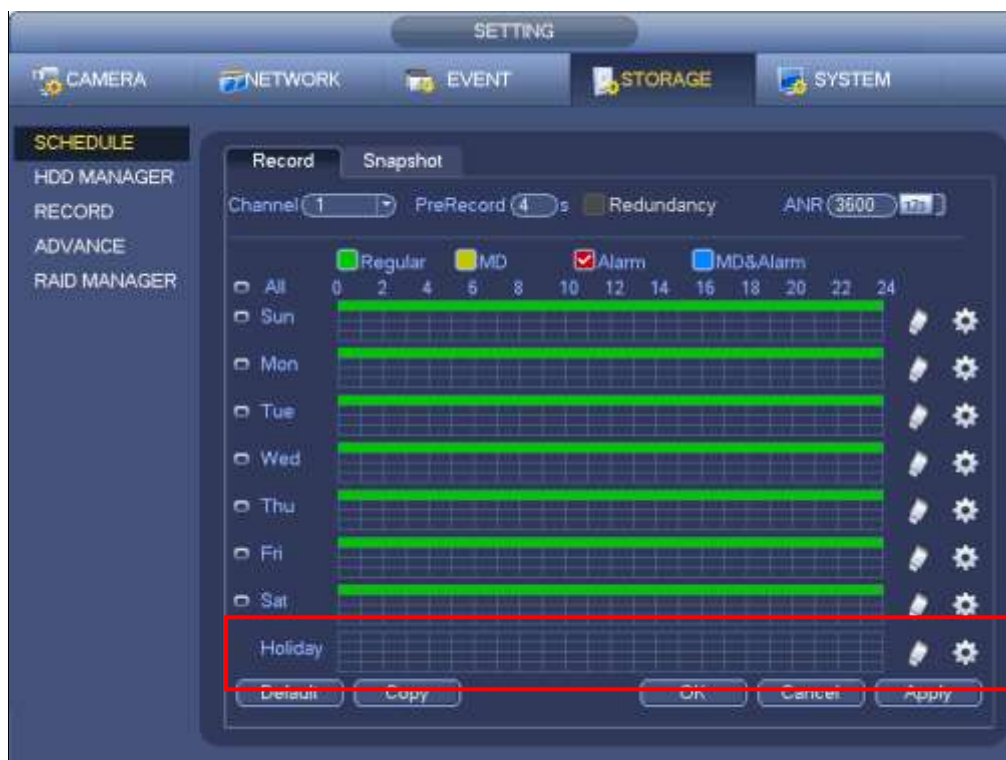

Figure 4-63
In the main menu, from Main menu->Setting->Storage->Schedule, you can go to schedule menu. See Figure 4-63. There are total six periods.
In the main menu, from Main menu->Setting->Storage->Schedule, you can go to schedule menu. See Figure 4-63. Here you can set snapshot period. There are total six periods in one day. Please refer to chapter 4.10.2.1 for detailed setup information. The setup steps are general the same.
- g) From Main menu->Setting->Storage->Schedule. See Figure 4-63
- h) Set motion detect record channel, period and the record type shall be motion detect (MD). Please refer to chapter 4.10.2.
- d) From Main menu->Setting->Storage->Schedule, you can go to Figure 4-63.